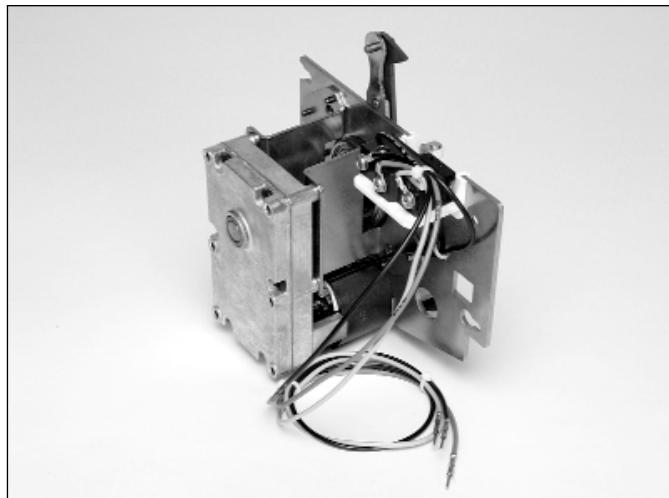

Figure 3-55 Motor Operator Kit
**Motor Operator** - A Motor operator is an electric motor assembly internally mounted in the circuit breaker (Figures 3-55 and 3-56). It charges the closing springs electrically for remote or local operation. The motor operator can be factory or site installed (Table 3.7).